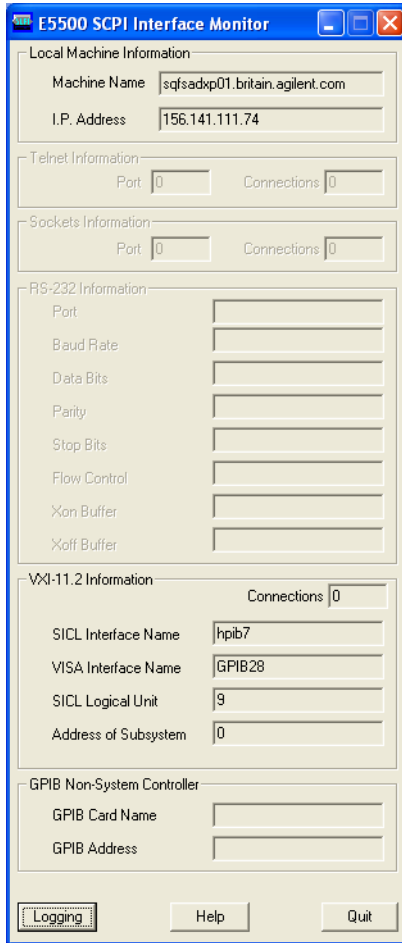
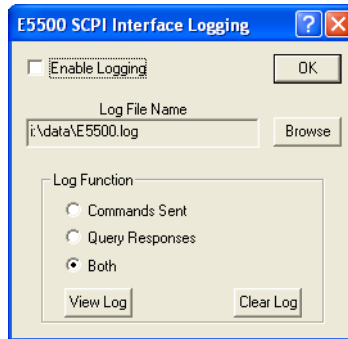

Figure 5 SCPI interface information
Figure 6 E5500 LAN client logging
- 1 Click the **Logging** button shown in Figure 5. The SCPI Logging dialog box appears as shown in Figure 6.